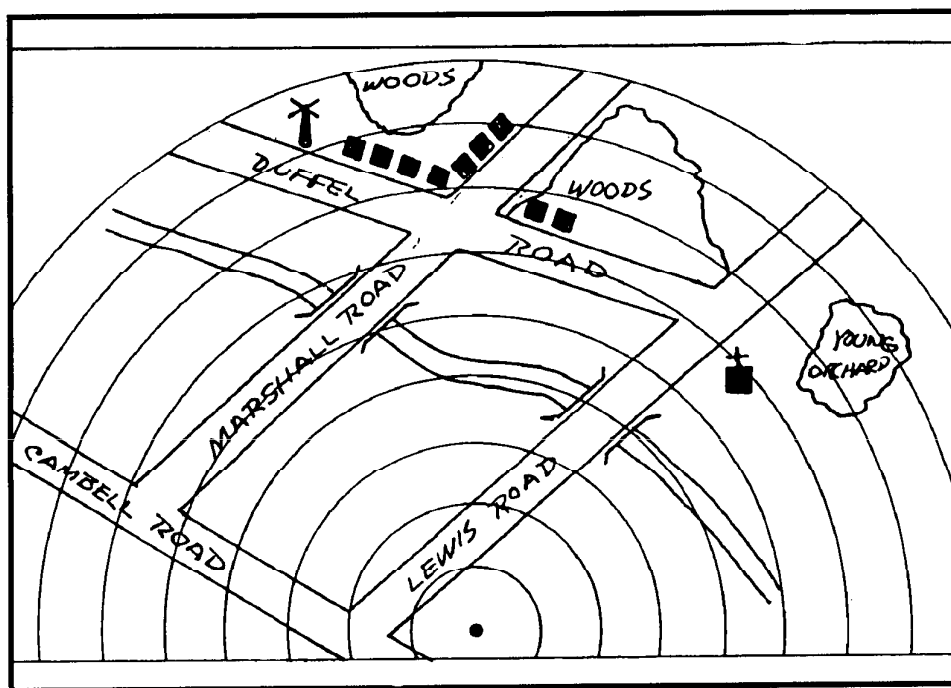

Figure E-2. Sketch of area on range card.
a. Draw a sector sketch of the entire sector. Make the sketch as large as possible, not to exceed the largest circle. For a large area covered by trees or woods, draw only the outline and label the area; for example, "woods," or "orchard" (Figure E-2).